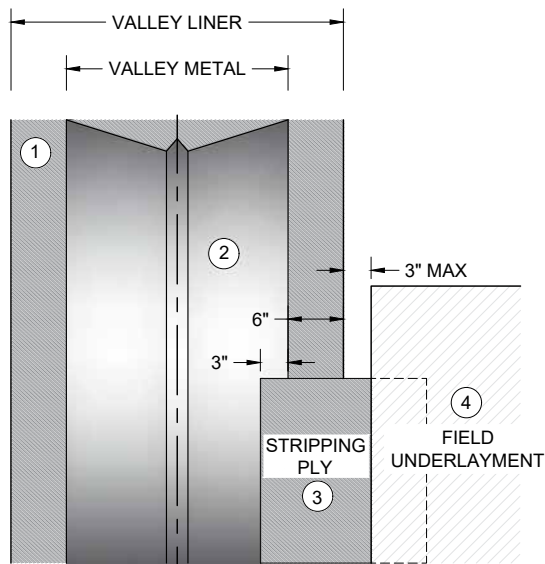

Figure 13 - Construction of Open Metal Valley Option 2
4. Apply field underlayment and position 3" max (76 mm) from the edge of the valley liner. **(See Figure 13)**